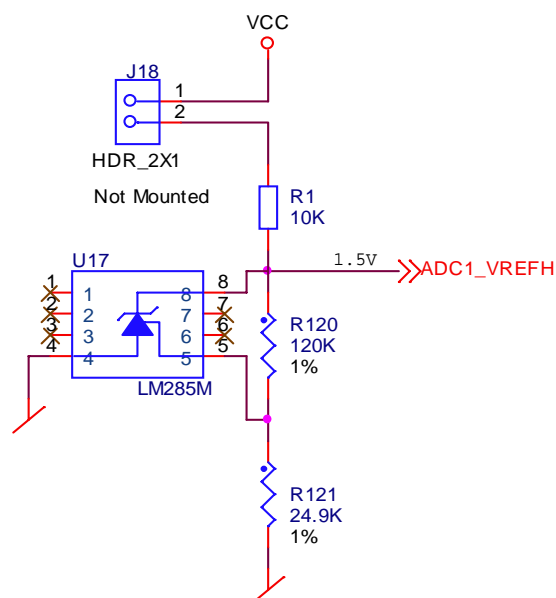

Figure 4-6. ADC Voltage 1.5 Vdc Voltage Reference
- A fixed voltage reference for ADC1\_VREFH is provided (see Figure 4-6).